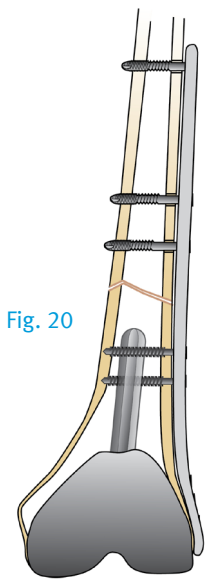
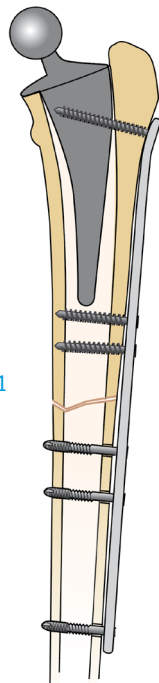

Fig. 20
Fig. 21
**WARNING:** A MINIMUM of three (3) *MotionLoc* Screws are required to be placed in the shaft of the bone: 1) Distal to the fracture around a prosthesis in a proximal femur (Fig. 20) and 2) Proximal to the fracture around a prosthesis for a distal femur fracture (Fig. 21).